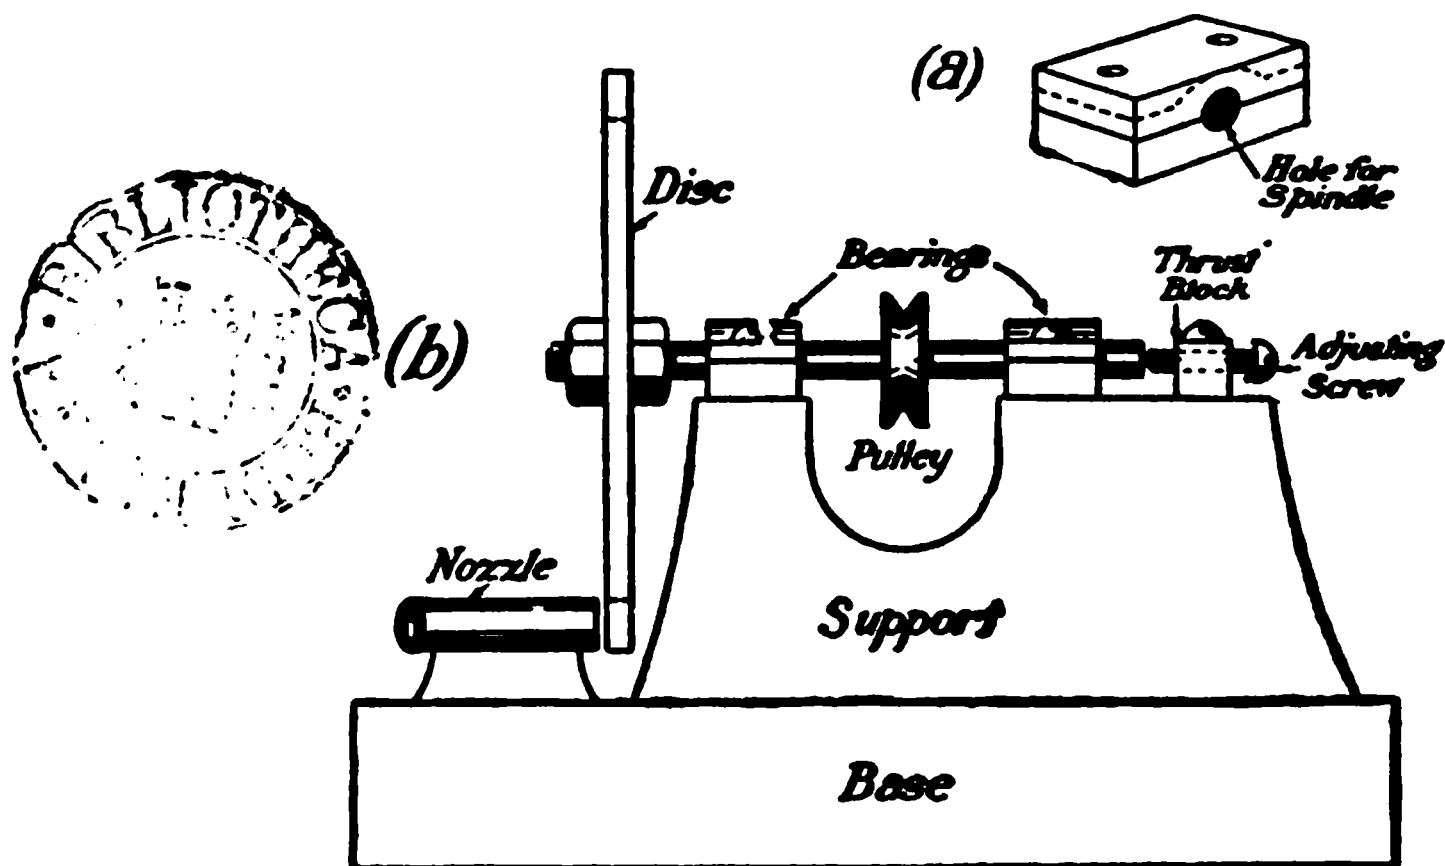

Fig. 82.—(a) Bearing for turbine. (b) End view of turbine: nozzle not shown.
*Support.*—This is cut from a block of wood to a shape shown in Fig. 82, *b*, and is mounted upon a thick, heavy block which forms the base.
Get two pieces of brass, as shown in Fig. 82, *a*, drill two holes in each, bolt them together with two small bolts and nuts. Then drill a hole through them so that half the hole is in each (this is easy if each plate be first nicked across with a file to give the drill a "lead"), its diameter being just
enough to allow the spindle to turn in it easily. Take the two apart again, file the upper to the shape shown by a dotted line in Fig. 82, *a*. As an alternative one may use for the bearings short pieces of brass tube fitting the spindle closely, held in place by wooden saddles on top.
Since the steam will tend to force the disc away from it, a "thrust" bearing will also be necessary. This may consist of a pointed screw passing through a brass block the details of which will be seen quite plainly in Fig. 82, *b*. The advantage of this form of thrust bearing is that it is adjustable. By turning the screw, the distance between the disc and the nozzle can be adjusted to a nicety.